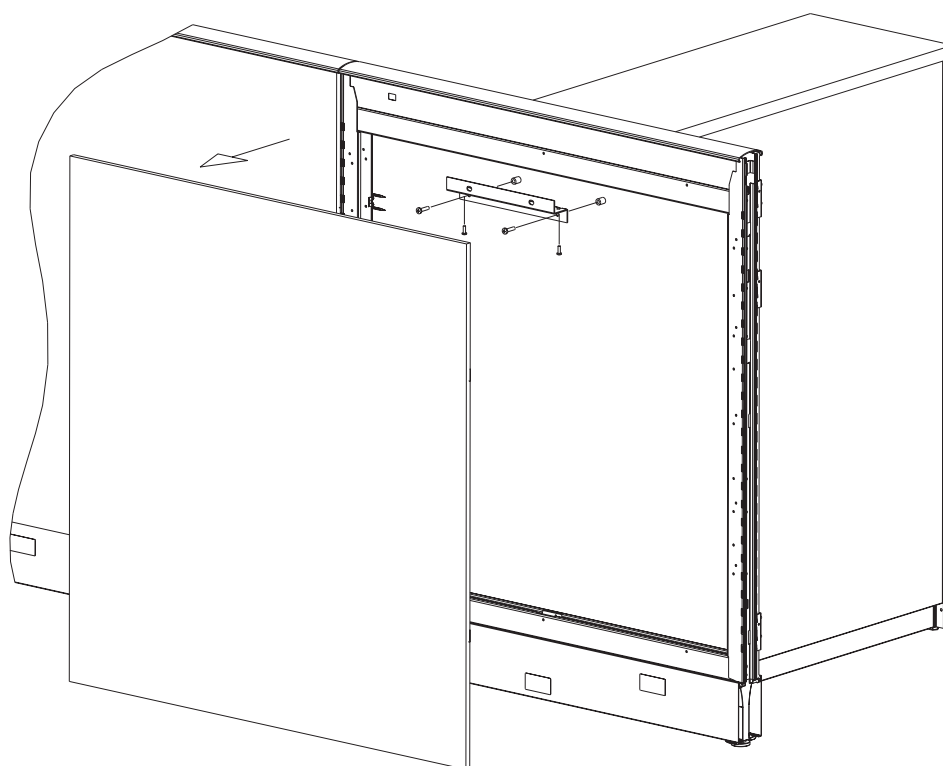

FIG. 4
Position Template unit in desired location against panel and remove panel skin opposite the case. (FIG. 4)
Position panel to Template tie bar bracket against panel frame cross member as shown and attach with (2) #10 x 5/8" self drilling pan head screws. (FIG. 4)
Drill 3/16" pilot hole through holes in tie bar bracket, through panel skin and into Template side panel. Note: Do not drill through slotted inner of side panel, drill only through outer surface of side panel. (FIG. 4)
Attach tie bar bracket to case using (2) 1/4" x 1-1/8" pan head screws and (2) spacer bushings. (FIG. 4)